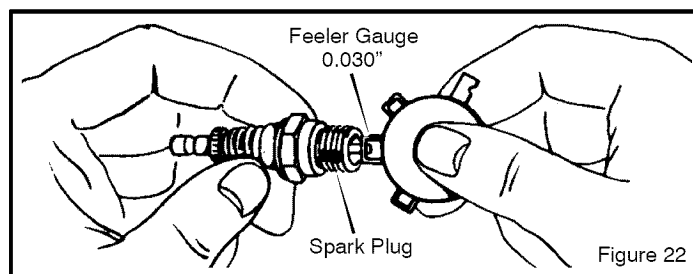

Figure 22
1. Check the gap of the **spark plug** with a **feeler gauge** (Figure 22). The correct gap is **0.030"**.